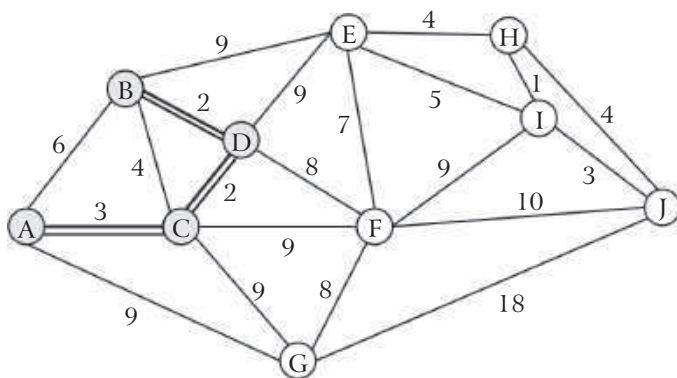

Fig. 8.9
Step 3: The node $\textcircled{B}$ of set $\bar{C}$ is nearest to the node $\textcircled{D}$ of set C . So we choose this node $\textcircled{B}$ and transfer it from the set $\bar{C}$ to the set C and choose the branch joining these two nodes $\textcircled{B}$ and $\textcircled{D}$ for M.S.T. These are shown in the fig. 8.9.